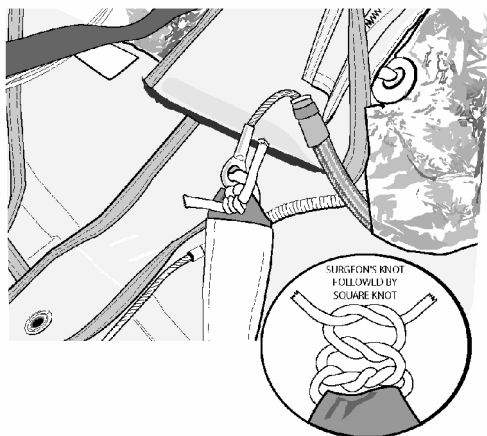

Figure 25. Arming Cable Tie
- c. Attach arming cable eye to drogue bridle arming loop with 2 turns single Type III gutted 550-lb nylon cord, ensuring that the drogue attachment bridle is underneath the arming cable eye. Route one end of a length of 550-lb nylon cord through arming cable loop, through eye of arming cable, back through arming cable loop, back through eye of arming cable, and finally back through arming cable loop. Tie off around drogue bridle arming loop with a surgeon's knot, followed by a square knot, followed by an overhand knot (Figure 25).